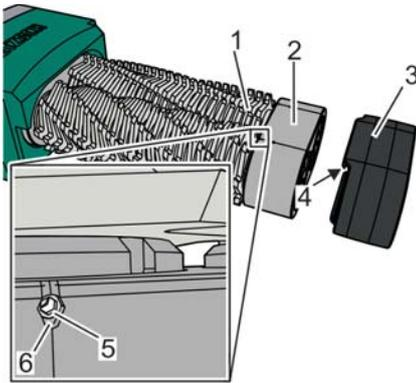

Fig. 79: Mounting the rubber cover, example
- 7. ➤ Unscrew all locking screws (Fig. 79/5) of the two rotating slide ring sealing parts until they are flush on the outside with the reference surface of the adjacent recess (Fig. 79/6) of the lower bearing housing (Fig. 79/2).
Put on rubber seal (Fig. 79/3) with the retention edge (Fig. 79/4) onto one side of the bearing housing (Fig. 79/2) and push down lightly. Slide the retention edge of the opposite side onto the bearing housing as well.
- 9. ➤ Slide the rubber seal (Fig. 79/3) all the way onto the bearing housing (Fig. 79/2) until the retention edges (Fig. 79/4) make contact with the top of the bearing housing without any tension.